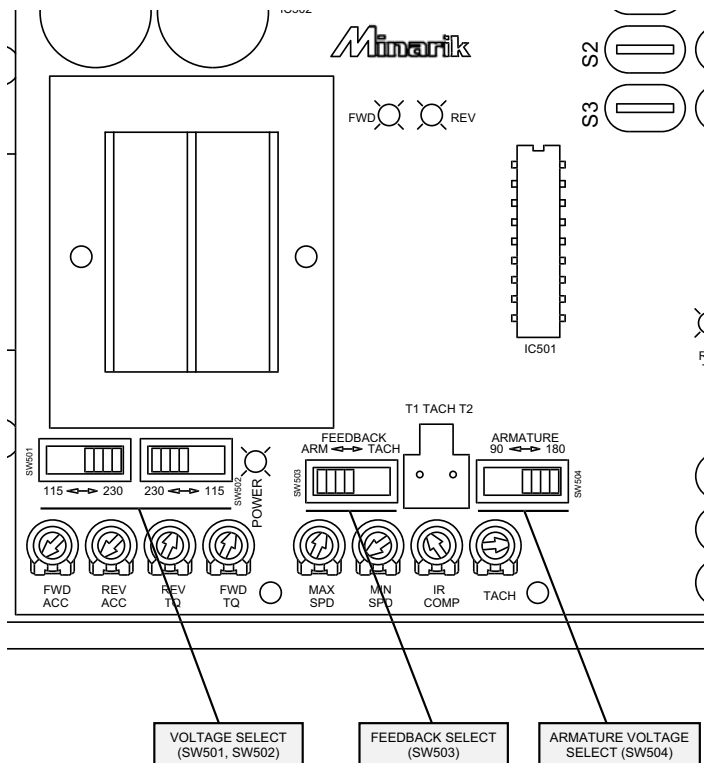

Figure 14. MMRGD Selector Switch Locations
Figure 14, page 25 shows the location of the voltage, feedback and armature voltage selector switches on MMRGD series drives. Figure 15, page 26 shows the location of these switches on C1RGD series drives. Ensure that these switches are in the proper positions for your application prior to applying power .
- Check that the input power, armature voltage and feedback selector switches are set to the correct position. See Figures 14 and 15, pages 25 and 26 for selector switch locations.